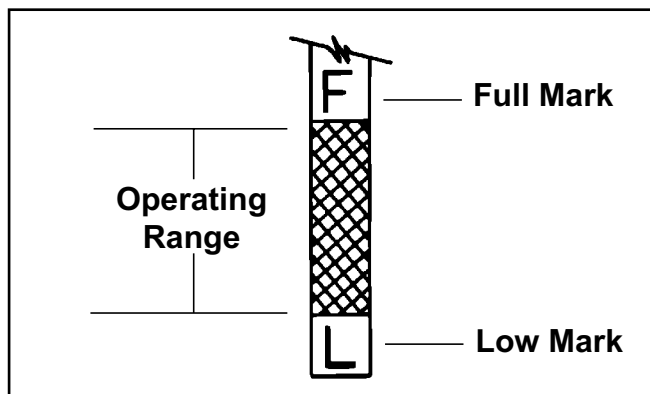

Figure 6-4. Dipstick.
4. Remove the dipstick again and check the oil level. Oil should be up to, but not over the "F" or FULL mark on the dipstick. See Figure 6-4.
4. Fill the crankcase with new oil of the proper type to the FULL mark on the dipstick. See Figure 6-4. Always check the oil level with the dipstick before adding more oil. Do not screw the dipstick in when checking oil level.
6. Fill the crankcase with the recommended oil to the FULL mark on the dipstick. See Figure 6-4. Always check the oil level with the dipstick before adding more oil. Do not screw dipstick in when checking oil level.